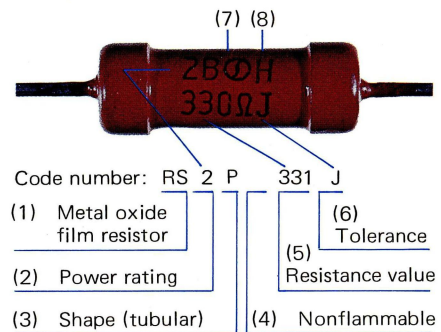
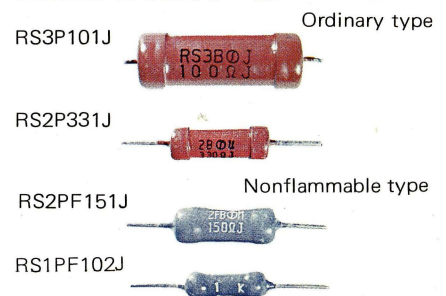

Fig. 3 Designation of metal oxide film resistors
Fig. 4 Metal oxide film resistors in current use
Metal oxide film resistors are mainly used in power circuits; their power ratings are 1W, 2W, 3W and 5W. (1) Pioneer's code for metal film resistors is RS. (2) In the photo above, "2" indicates power rating, (3) represents shapes of resistors. P is used for this type of resistor. (4) Ordinary RS resistors have a reddish brown coating, while the nonflammable type are gray and marked F (see Fig. 4). (5) The resistance value is indicated with a 2-digit number and the multiplier 10 raised to a certain power. In Fig. 3, for instance, the resistance value should read 330 ohms, $\pm 5\%$. (6) J is generally used to describe the resistance value and in some cases, G or K are also used. The number (7) marking in Fig. 3 indicates the manufacturer; (8) represents the lot number. Resistance values of RS resistors used in Pioneer products are between 10 ohms and 220 Kohms.